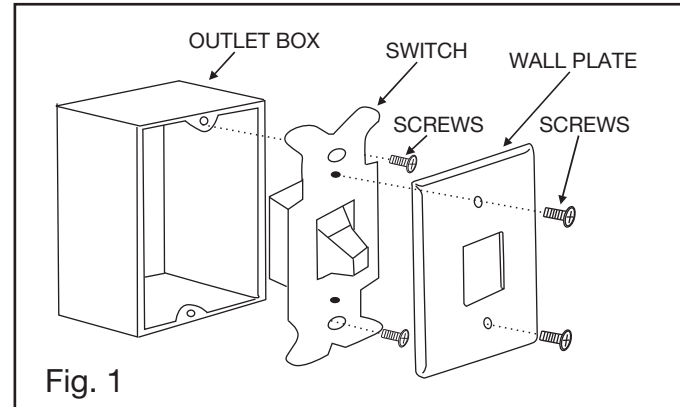

Fig. 1
- 1 Remove ball from downrod by loosening set screw in the side of the ball. Slide ball down and remove cross pin; remove ball. (Fig. 1)
- 1 Disconnect the power and remove the existing wall plate and switch from the wall junction box. (Fig. 1)
- 1 Place blade arm over blade and align blade with mounting holes in blade arms. Fasten blade to blade arm with provided screws and lock lockwashers by uses Blade Arm Wrench. Repeat this procedure without tightening the screw until all 3 screws and nuts have been started into the blade arm (Fig. 1).